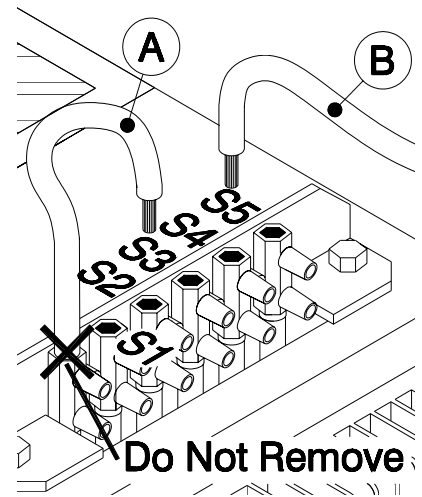

**Figure 6. Digital Transformer Connections**
2. Using Figures 6 & 7 and the chart below, adjust the jumper wire (A) and tap wire (B) to the transformer taps that match the hose length to be used.
3. Connect the harness (C) from the power pack to the receptacle on the electric console (see Figure 6).
4. Connect the power cord (D) from the power pack to the electric console. Twist the plug to lock it into the receptacle.